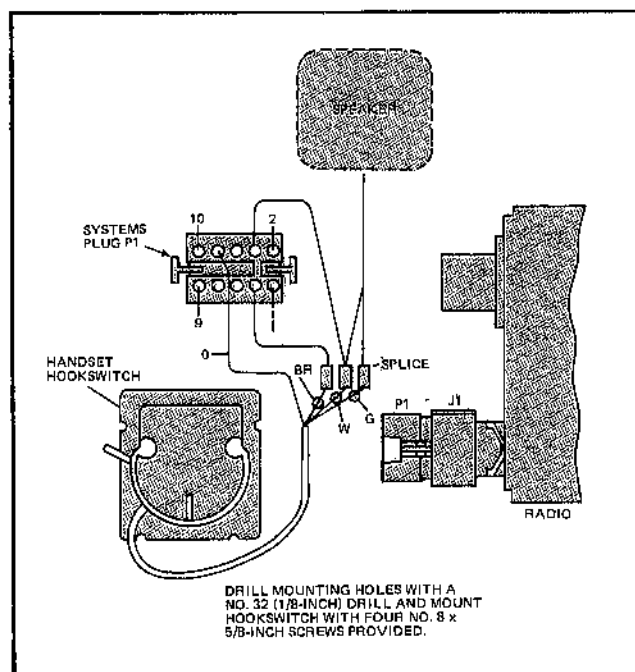

Figure 8 – Handset Hookswitch
First, cut the speaker cable approximately 3 inches from P1. Separate the bonded wires from the speaker and P1 about 2 inches and strip ends of the wires 1/3 of an inch. Splice the wire from P1-3 to the brown wire from the handset hookswitch (See Figure 8), and splice (1) wire from the speaker to the green wire from the handset hookswitch. Next, splice the wire from P1-4 and the other wire from the speaker to the white wire from the handset hookswitch. Then connect the orange wire from the handset hookswitch to P1-8.